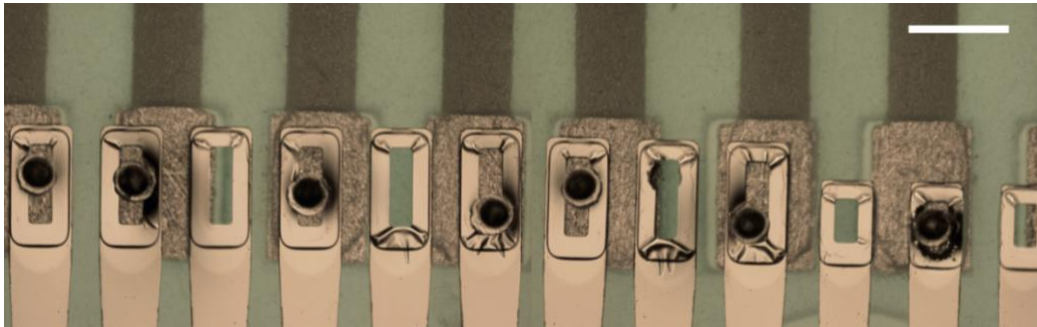

Figure 3. Ball bonding through 50  $\mu\text{m}$  wide rivets in a Parylene MEA. Scale bar is 200  $\mu\text{m}$ .
- a. Figure 3 shows preliminary successful results of Au balls bonded to a PCB pad with 30 microinches of soft bondable Au (ENIG) pads through rectangular rivets 50  $\mu\text{m}$  wide, manually aligned to a PCB substrate.